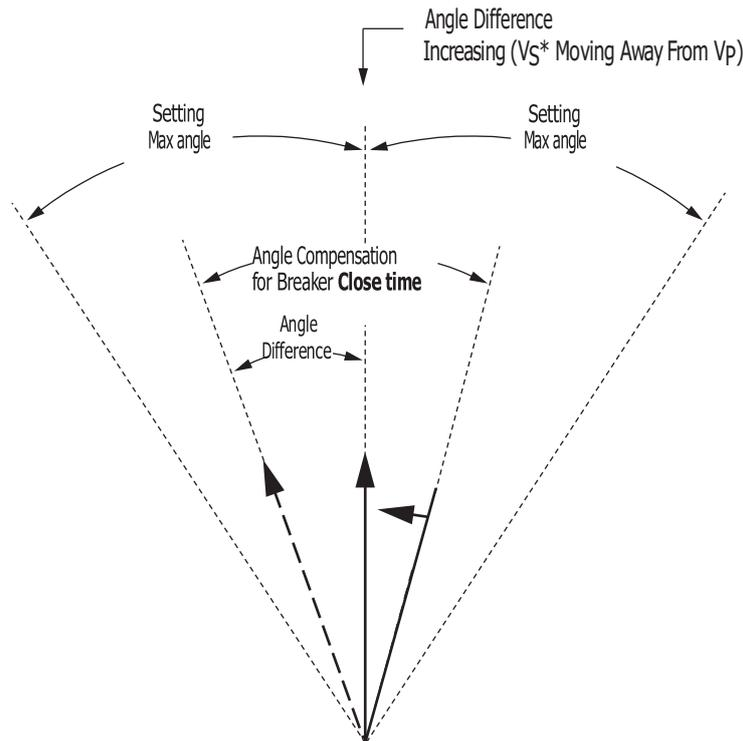

Figure 1 Angle Difference Between VP and VS Compensated by Breaker Close Time ($f_P < f_S$; VP Shown as Reference in This Example)
During the breaker **Close time**, the voltage angle difference between voltages VP and VS changes by 6 degrees. This 6-degree angle compensation is applied to voltage VS, resulting in derived voltage VS*, as shown in *Figure 1*.
The top of *Figure 1* shows the Angle Difference *decreasing*—VS* is approaching VP. Ideally, circuit breaker closing is initiated when VS* is in-phase with VP (Angle Difference = 0°). Then when the circuit breaker main contacts finally close, VS is in-phase with VP, minimizing system shock.
The bottom of *Figure 1* shows the Angle Difference *increasing*—VS* is moving away from VP. Ideally, circuit breaker closing is initiated when VS* is in-phase with VP (Angle Difference = 0°). Then when the circuit breaker main contacts finally close, VS is in-phase with VP. But in this case, VS* has already moved past VP, it will be
1. The top of *Figure 1* shows the Angle Difference *decreasing*—VS* is approaching VP. When VS* is in-phase with VP (Angle Difference = 0°), synchronism check elements assert to logical 1.
2. The bottom of *Figure 1* shows the Angle Difference *increasing*—VS* is moving away from VP. VS* was in-phase with VP (Angle Difference = 0°), but has now moved past VP. If the Angle Difference is *increasing*, but the Angle Difference is still less than maximum angle settings **Max angle**, then corresponding synchronism check elements assert to logical 1. In this scenario of the Angle Difference increasing, but still being less than maximum angle settings **Max angle**, the operation of corresponding synchronism check elements becomes *less restrictive*. Synchronism check breaker closing does not have to wait for voltage VS* to slip around again in-phase with VP (Angle Difference = 0°). There might not be enough time to wait for this to happen. Thus, the "Angle Difference = 0°" restriction is eased for this scenario.